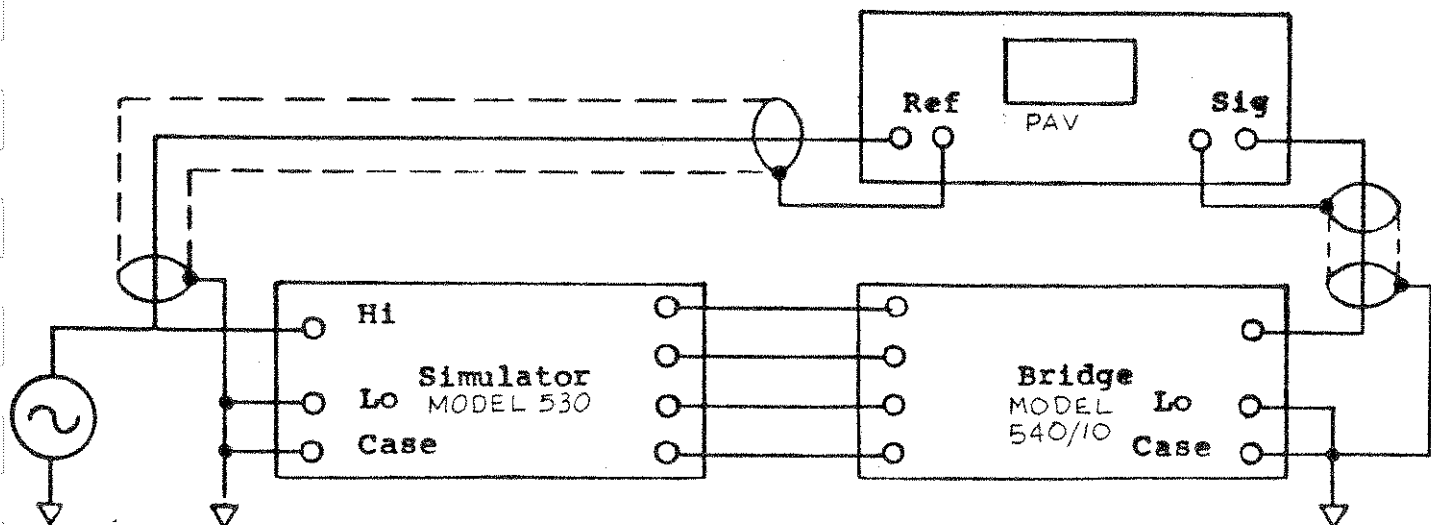

Figure 6-2. Hookup for Calibration Procedure I
- a. Connect equipment as shown in figure 6-2.